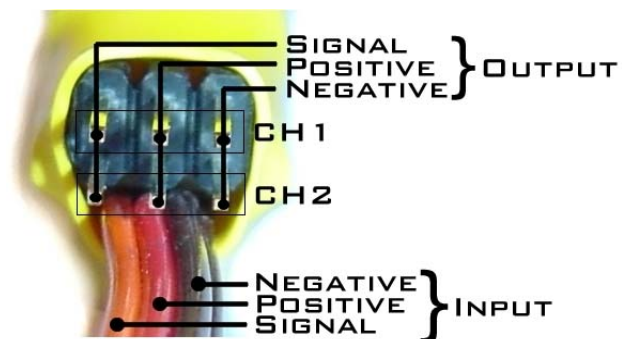

Figure 2. Output connectors
Figure 2 shows WingMax's output connectors. Connect Futaba compatible servos to these connectors and plug WingMax into the appropriate channels on the receiver.
1. Plug in WingMax into the receiver and connect the servos to WingMax's output pins (see Figure 2).